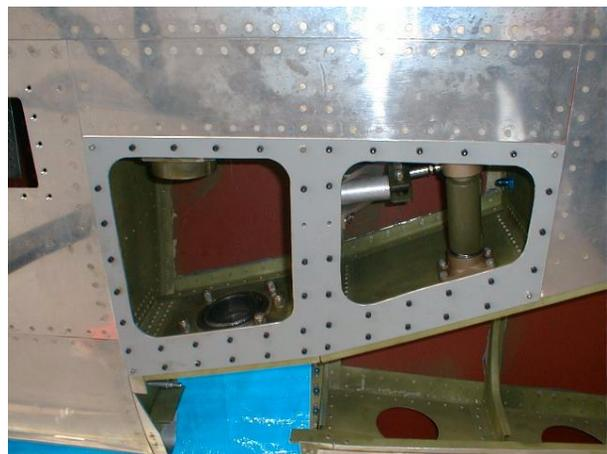

Figure 3.5. Cutout plates hold the center rib in position.
*Before you put any severe side-loads on the main gear you must make arrangements to support the bottom of the rib at WS 43.25.* If you do not do this you are likely to bend the rib, knocking your carefully aligned downlock hardware out of whack. One way to do this is to install the cover plates on the bottom of the wings, however this obviously prevents access to the actuators and downlock assemblies. Jim recommends fabricating a couple of new covers (Figure 3.5) from 0.125" aluminum plate, then cutting out the centers of each bay 0.5" or so inboard of the screws. This is apparently sufficient to secure the rib bottom, at least for purposes of testing on the stands and moving about the hangar. It may or may not be strong enough to taxi the aircraft. It would probably be wise to play it safe and install the original covers before you taxi.